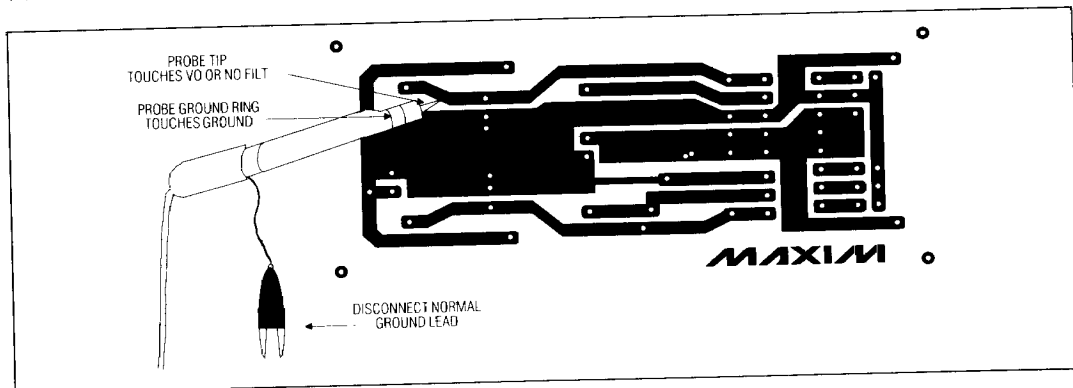

Figure 8. Noise Measurement
5. Noise: Real or Not? A very short scope probe ground lead **must** be used to eliminate induced switching noise unless the board is placed in a shielded enclosure. Many probes have a ground ring near the tip (underneath the probe tip cover) normally used to insert the tip into a BNC jack. Place the probe so this probe ground ring touches the filter capacitor ground lead while the probe tip touches VO (Figure 8). Also, ground noise can often be reduced by connecting the case (earth) ground of the +5V source to circuit ground.